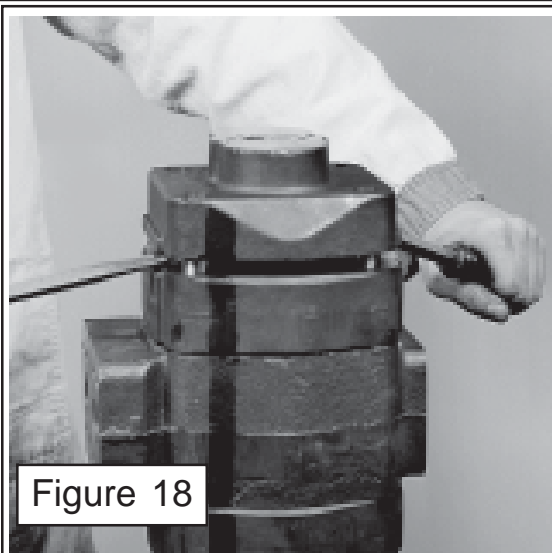
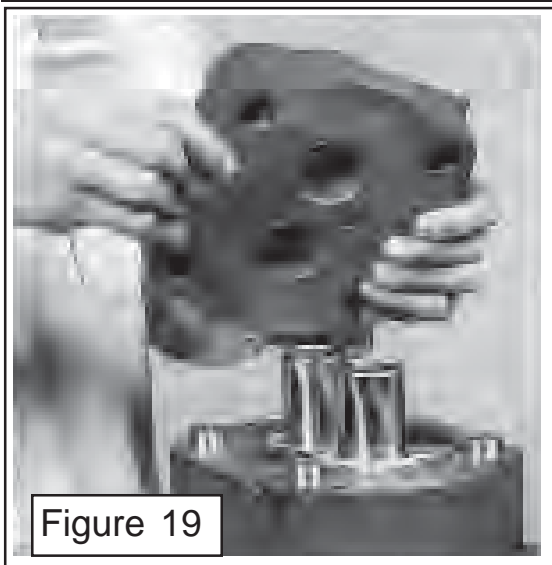

Figure 18
Figure 19
3. Lift the first port end cover (figure 18), if prying is necessary, be careful not to damage the machined surfaces (figure 18). Dowel pins (figure 19) will remain in either the port end cover or gear housing. This will be OK because the components must be re-assembled in the same direction and orientation as removed. If one or more of the components are to be replaced as parts then it may require that the dowel pins be removed (figure 19).
4. Remove the thrust plate (figure 19). Make a note how this was removed, there is a smooth side and there is a grooved side. The smooth side will always face the gears, the grooved side will be for the channel seal (figure 19). Inspect the thrust plate for damage or wear at this time (see wear tolerance chart for pump and motors in this section), this will help in looking for other wear or damage to other components and also enable you to start making a list of components that need replacing.